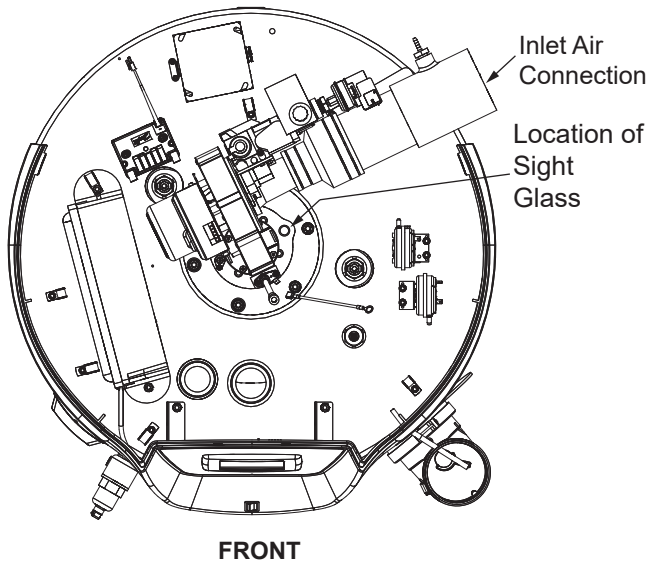

Figure 63. Location of Sight Glass
- Cause no excessive lifting of flame from burner ports. See *Figure 63*.